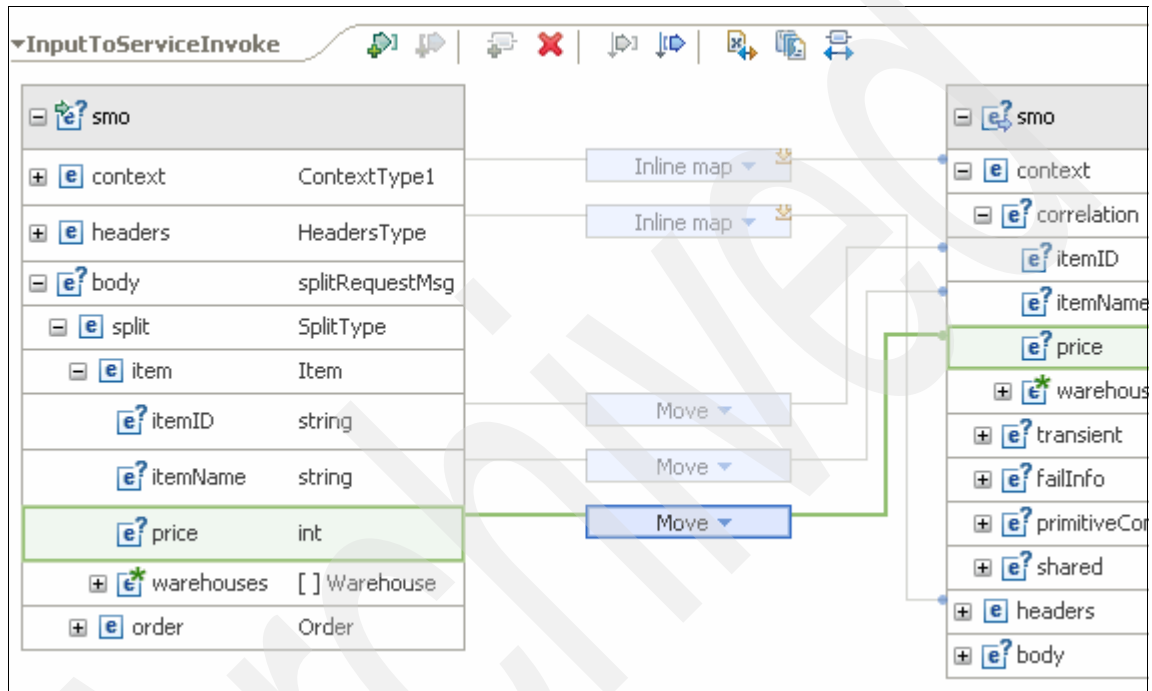

Figure 6-39 Moving Input Item attributes in the correlation context
- c. Wire all of the **body** → **split** → **Item** elements to the **context** → **correlation** → **Item** elements but the warehouses array as shown in Figure 6-39.